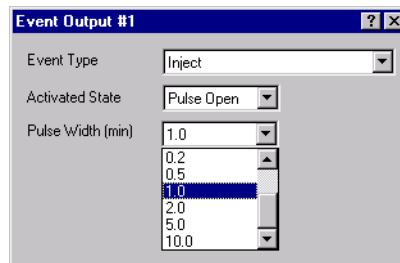

Figure 3-13 Selecting the Pulse Width
- d. If you selected a pulse state from the Activated State list, select a pulse width (Figure 3-13). Available choices are from 0.01 to 10.0 min. Default = 1.0 min.